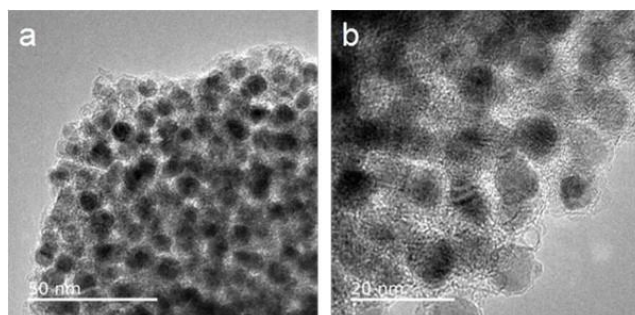

Fig. S9 TEM images of Ni@C-600 after 8 cycles.
- IX. **Fig. S9** TEM images of Ni@C-600 after 8 cycles.